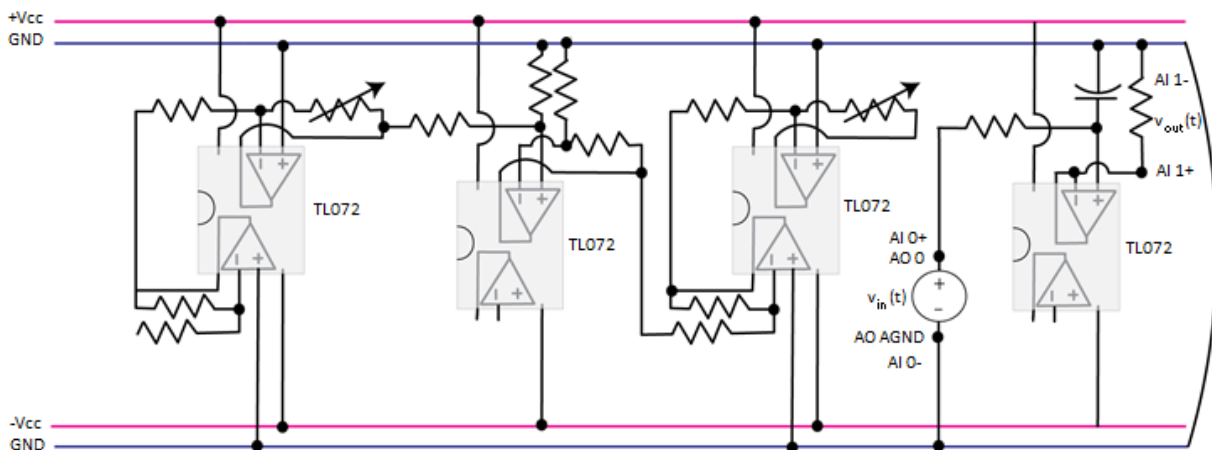

Figure 11: System Plant Schematic
2. Add a 4th op amp to the breadboard and build the circuit in Figure 11. Connect pin 4 to **-Vcc** and pin 8 to **+Vcc**.